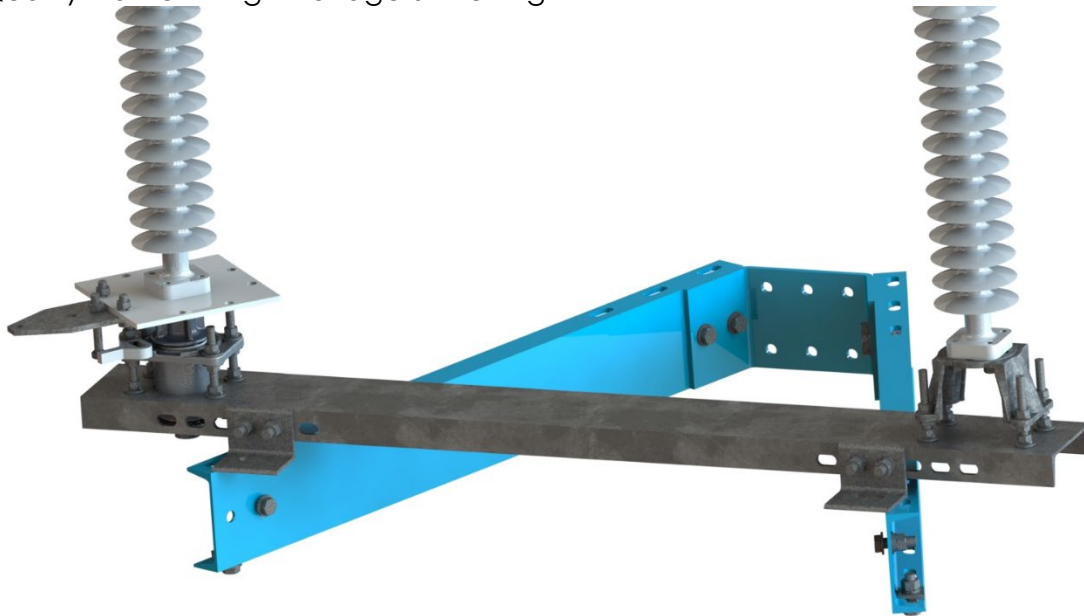

Figure 4: Attach upper frame to switch base
- 2) Attach switch base to upper frame. Secure with provided hardware. See Figure 4.